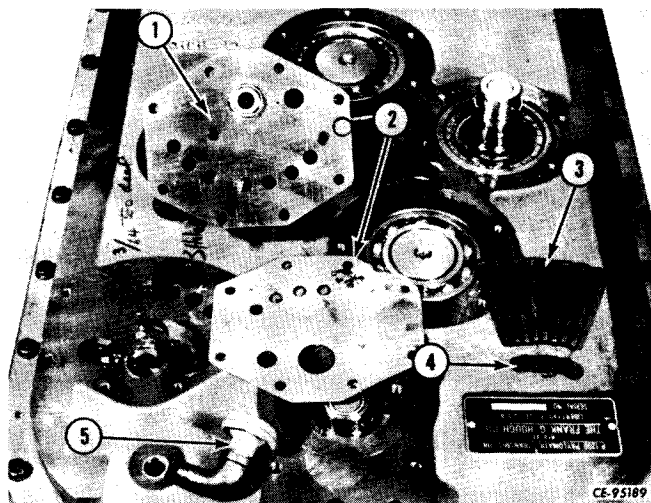

Figure 4-24
Remove range selector valve cap screws (3, Fig. 4-24), washers (4), range selector valve (1) and gasket (2). Remove breather (5). For further disassembly, see "RANGE VALVE." Discard gasket.